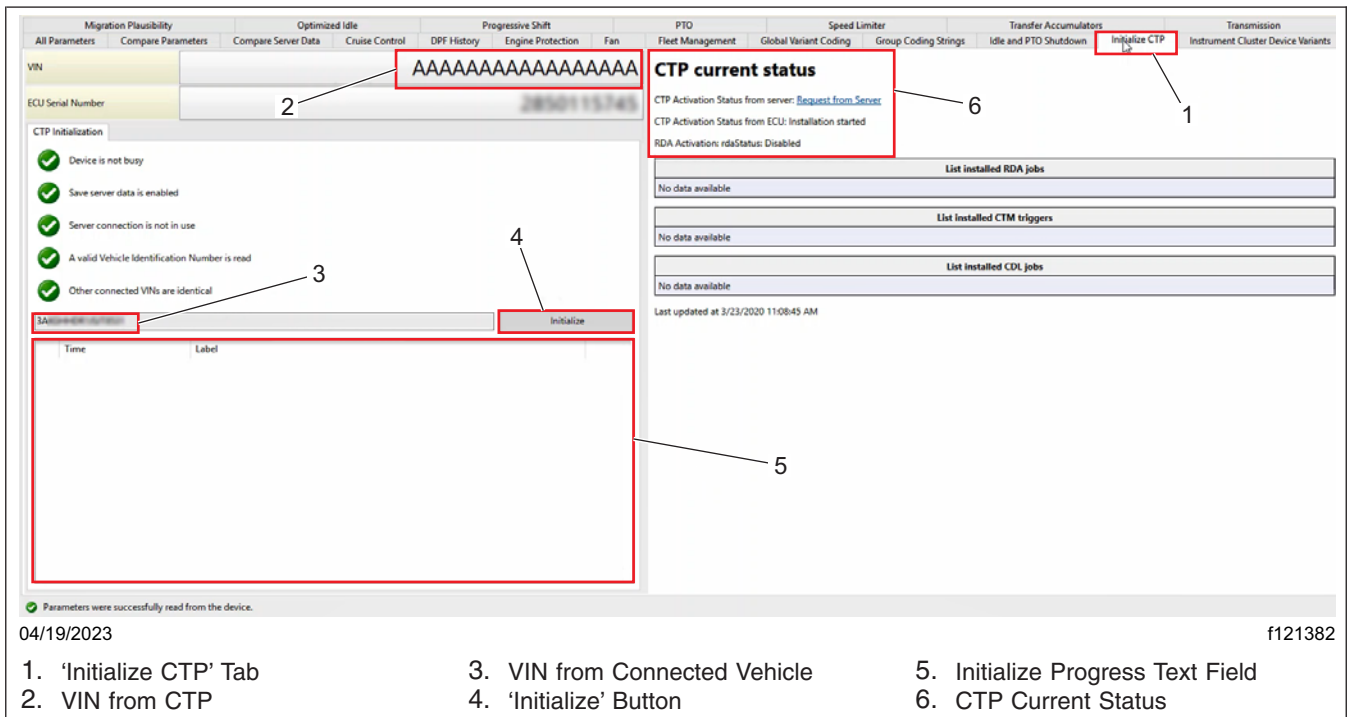

Fig. 43, CTP Initialization
18. Select the 'Initialize CTP' tab. Verify the vehicle identification number (VIN) from the new CTP2 reads the default AAAAAAAAAAAAAAAAAA, or the VIN from the connected vehicle. See Fig. 43. If not, remove the CTP, and install a new CTP.